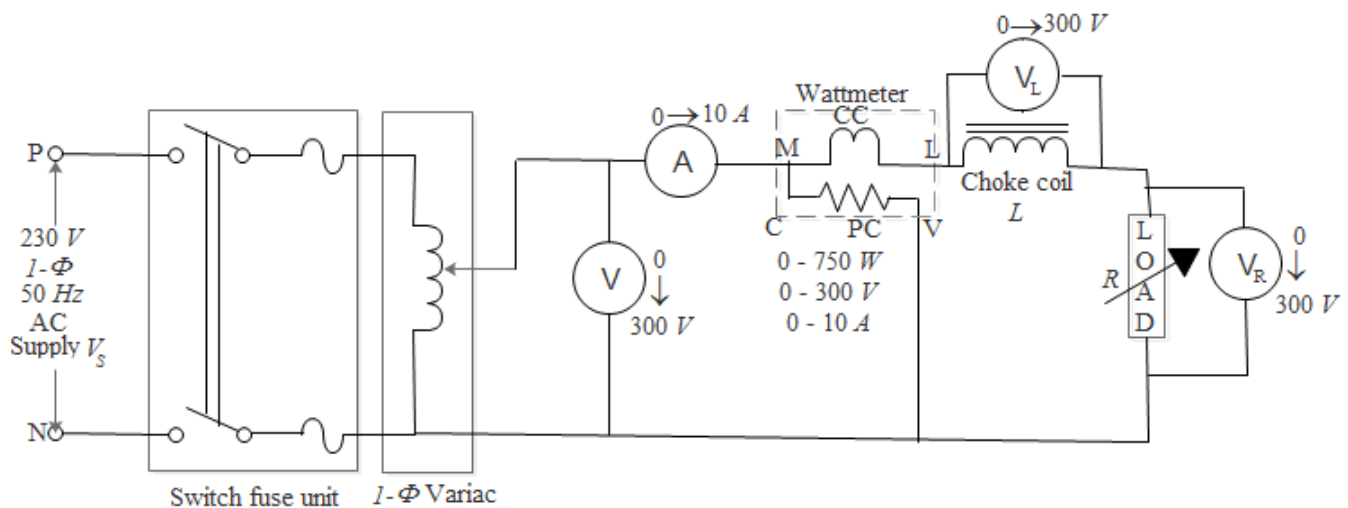

Fig. 2.3: Circuit Diagram for determination of resistance, inductance, power and power factor of R – L series connected load
1. Connect the circuit as shown in Fig. 2.3.
2. Vary the 1- ϕ AC supply voltage with the help of 1- ϕ variac shown in Fig. 2.3.
7. Calculate impedance of circuit, impedance of coil, internal resistance of coil, inductive reactance of coil, inductance of coil and power factor from readings as shown in Eq. (10) to (17).